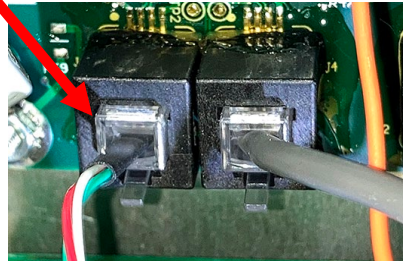

Figure 7
- Disconnect the RJ11 KCCM CAN/power harness (see Figure 7) from the FIB board.